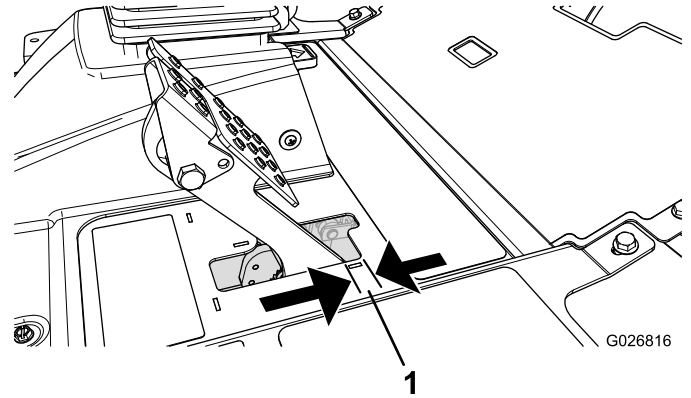

Figure 51
Adjust the brakes when there is more than 2.5 cm (1 inch) of free travel (Figure 51) of the brake pedal, or when more holding force is required. Free travel is the distance the brake pedal moves before you feel braking resistance.
2. Tighten the rear nut to move the cable backward until brake pedals have 6.3 to 12.7 mm (1/4 to 1/2 inch) of free travel (Figure 51), before wheel lock up is achieved.